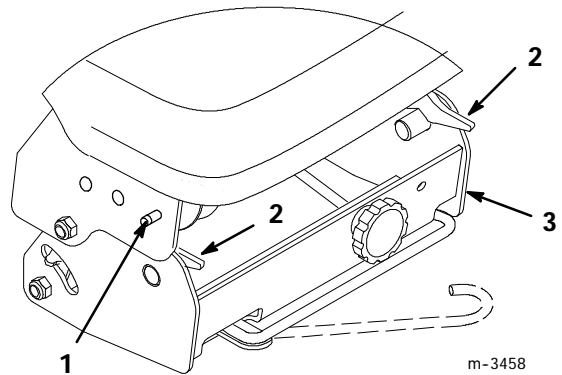

Figure 23
- If you wish to remove the pulley box, push the latch release buttons on the front Attach-A-Matic[™] (Fig. 23) and raise the latch levers to open the latches holding the pulley box. Remove the pulley box.